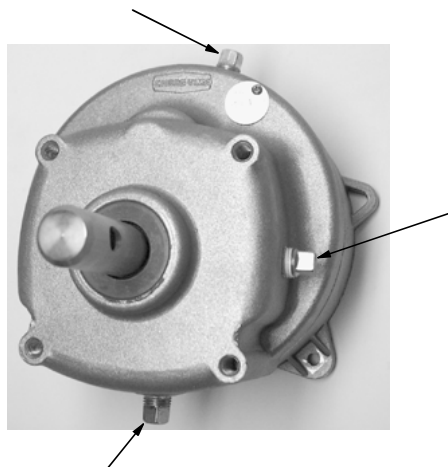

Figure 55. Gearhead Maintenance
14. At the control unit, after clamping the cable to the spring, cut the cable about 8" to 10" [200 to 250 mm] longer than necessary. Feed the end of the cable through the center of the spring, around the first insulator on the control unit, and clamp the cable using the cable clamp supplied with the control unit. See **Figure 55.** Install the wire form on the control unit insulators. Be sure the guard snaps into the retainers molded into the